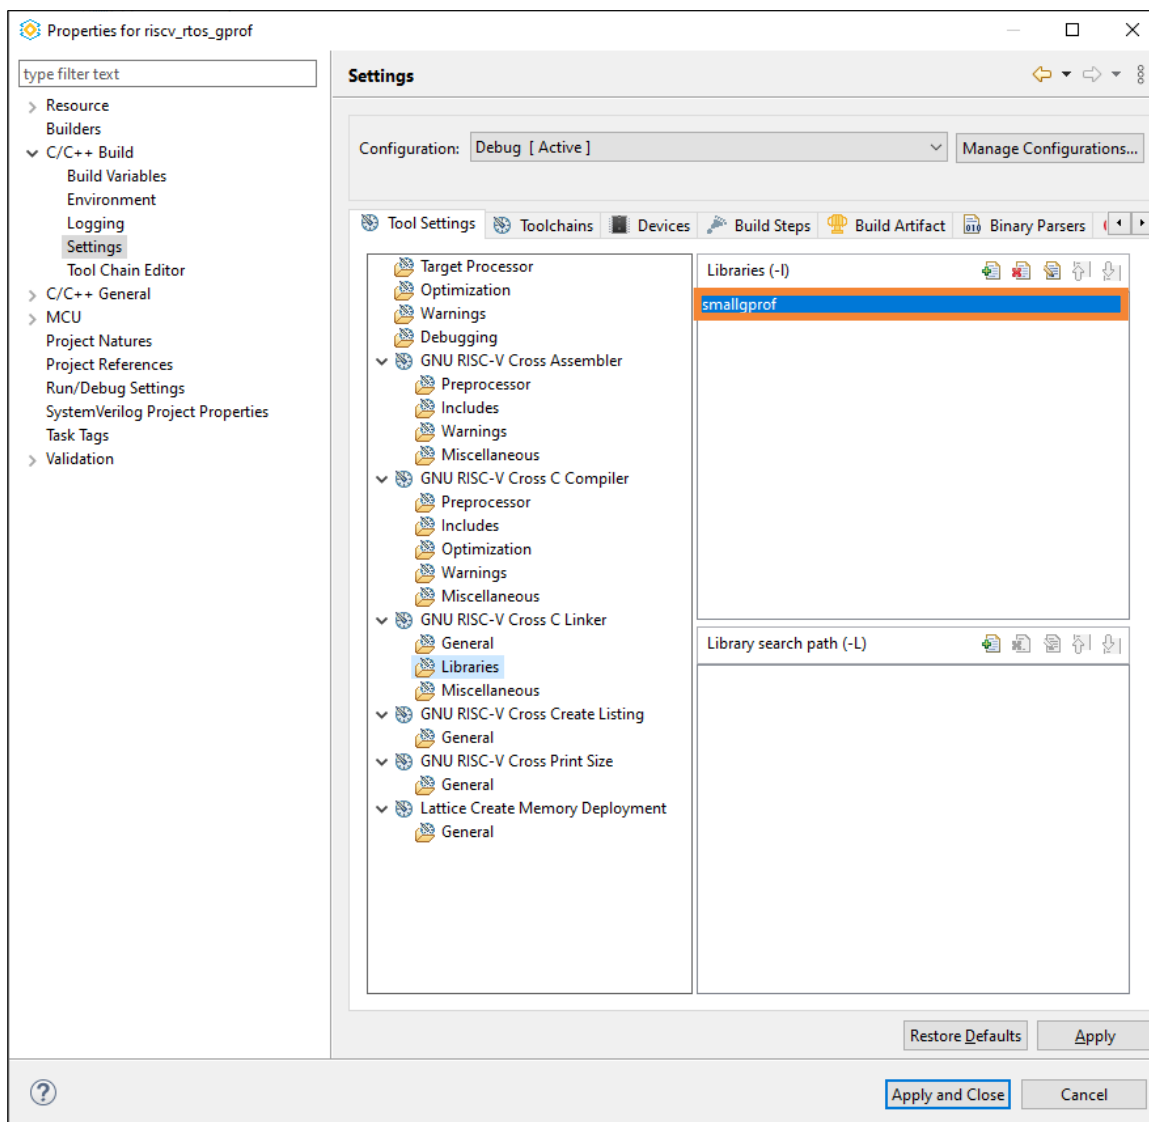

Figure 5.33. smallgprof Link Library
5. Select **GNU RISC-V Cross C Linker > Libraries**. Add the library, smallgprof (Figure 5.33).